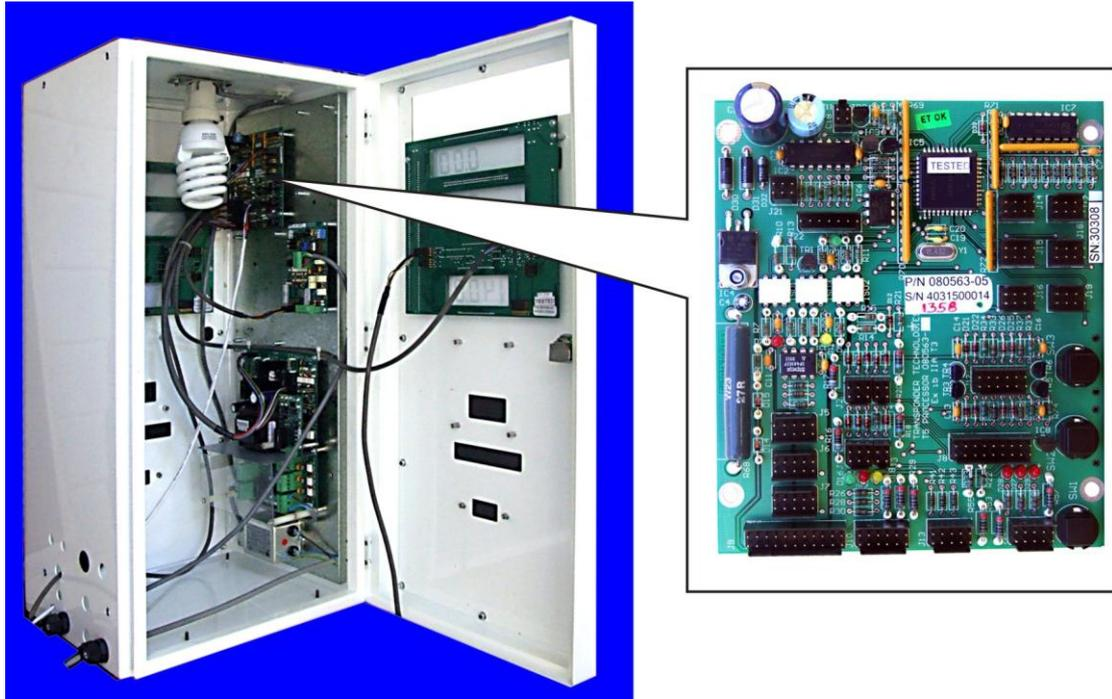

Figure 1: Main Processor Board Location
The dispenser is programmed using the three (3) switches on the Main Processor Board, shown in Figures 1 and 2.